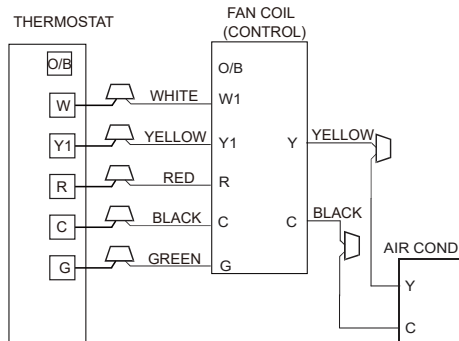
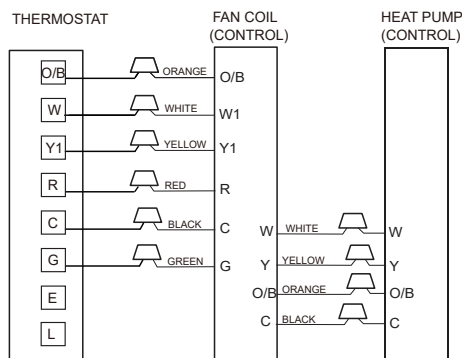

Fig. 3-4 Wiring Layout Air Conditioning Unit (Cooling and 1- Stage Heat)
Fig. 3-5 Wiring Layout Heat Pump Unit (Cooling and 2- Stage Heat)
See Figs 3-4 ,3-5 for field low-voltage wiring. See Fig 2-1 for location of the electrical inlets. For maximum ampacity and over-current protection, see unit rating plate or product data sheet.
5. Connect low-voltage leads to thermostat and outdoor unit. See Fig. 3-4 and Fig. 3-5 as well as the outdoor unit wiring label.
The A2L Detection Sensor is attached to a wiring harness that connects the sensor to the control board. Refer to Fig.3-4 and Fig.3-5 for low voltage field connections between the control board and the thermostat.